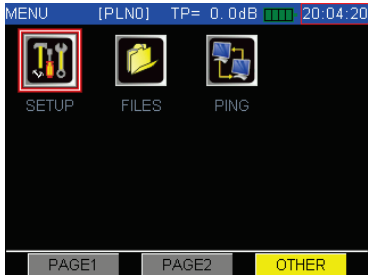

Figure 4-4
2. Press  return to main menu, press  open the other screen, and select the Setup shortcut like Figure 4-4, then press  into Setup Menu.